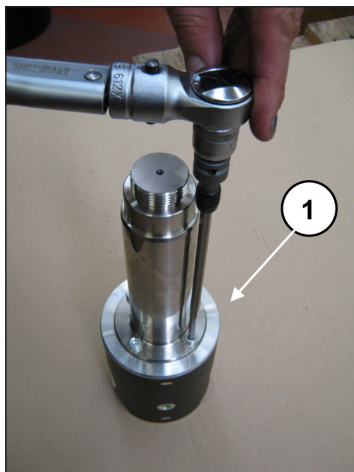

Fig. 41
To separate the rod from the piston guide, unscrew the hexagonal head M6 screws with a special wrench (pos. ①, Fig. 41).